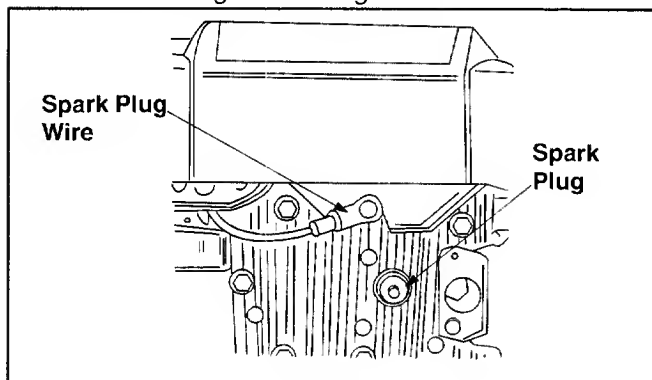

Figure 1
- Before setting up your lawn mower, disconnect the spark plug wire from the spark plug and ground to a bolt on the engine. See Figure 1.